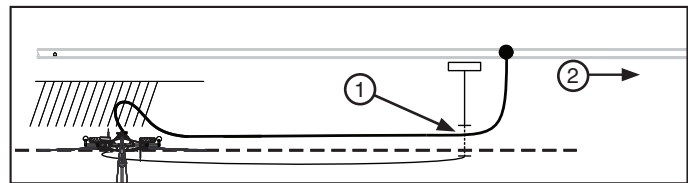

Figure 51-3 1. Buried Cable
- (b) As the swivel inlet pivots the hose is pushed out away from the cart and guided by either the side walls of the cart tires or the optional hose bumpers. See figure 51-3.